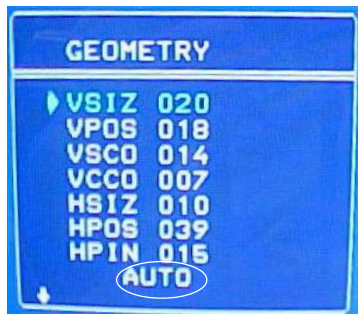

Figure 7. Geometry Menu
Press the GREEN button (24) in order to change from the Main Service Menu to the Geometry Menu, as shows the figure 7. To return to the Main Service Menu it should be pressed the Menu button (30), see Figure 5.